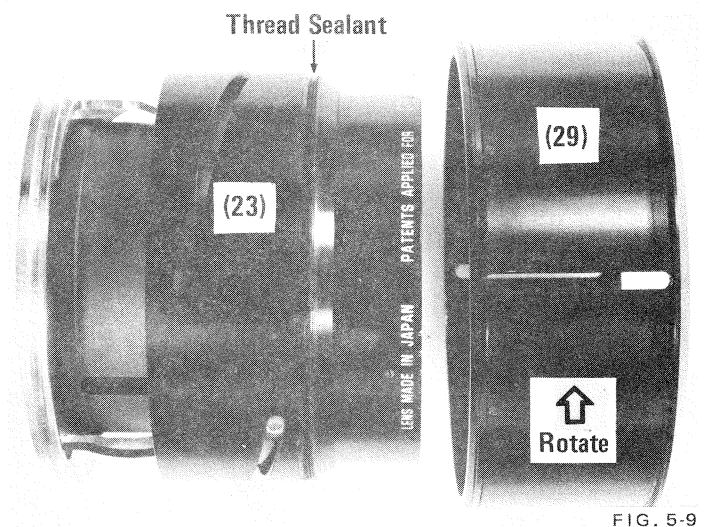

FIG. 5-9
- a) Place thread sealant on the threads of the cam ring (23), then thread control ring (29) onto the cam ring from the rear; tighten the control ring firmly. Fig. 5-9.